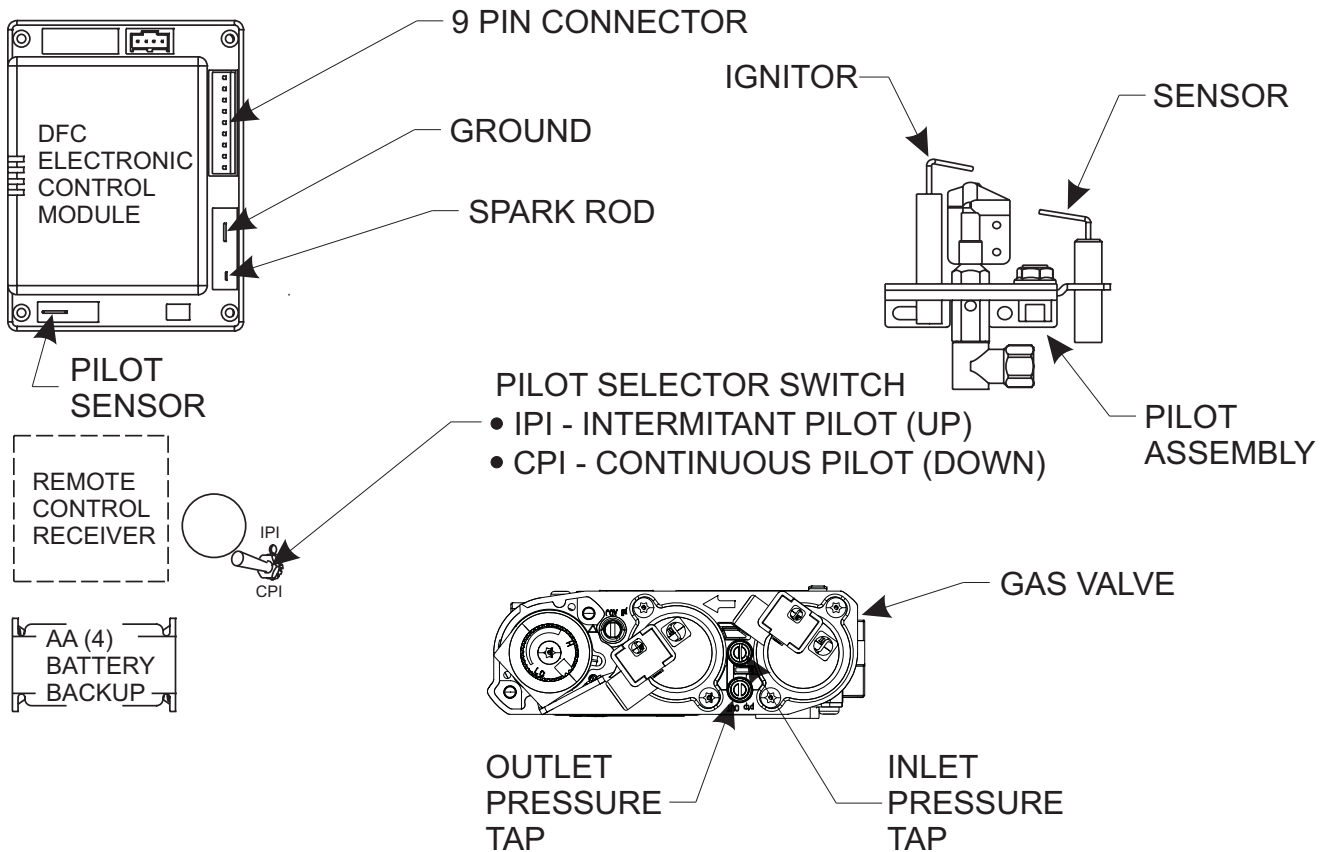

Figure 31
NOTE: A small toggle switch is located on a bracket that is used to switch from IPI (upward position) to the CPI (downward position). **See Figure 31.**
3. The gas valve has inlet and outlet pressure taps as shown in **Figure 31**. Refer to page 19 for gas pressure requirements.
NOTE: The gas control has a manual HI/LO flame adjustment knob (regulator) that allows you to increase or decrease the height of the burner flame. **See Figure 31.** Rotate the HI/LO knob counterclockwise to "HI" to increase the flame height, and clockwise to "LO" to decrease the flame height.